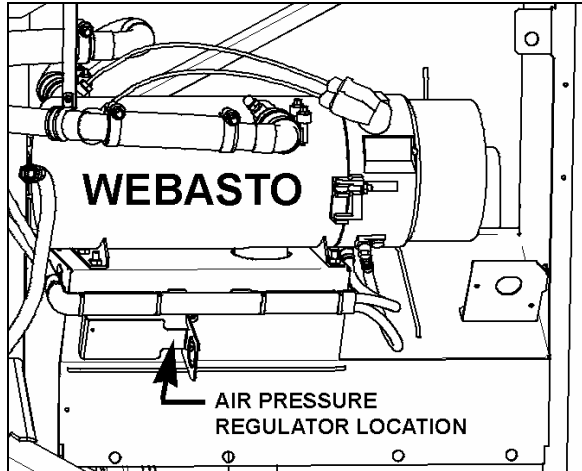

FIGURE 13: AIR PRESSURE REGULATOR (TYPICAL) 07130
20. Adjust the retarder pressure to 80 ± 3 psi with the air pressure regulator. For more information refer to Section 12, "BRAKE AND AIR SYSTEM", under heading "AIR PRESSURE REGULATOR". The air pressure regulator is located near the Webasto in engine compartment, on R.H. side (Fig. 13).